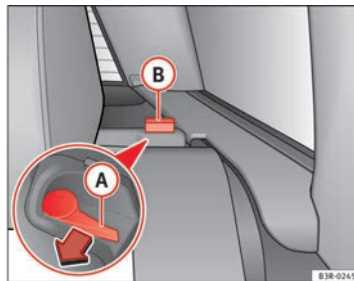

Fig. 126 Backrest release lever
- Press the release lever (A) ⇒ Fig. 126 in the direction indicated by the arrow.